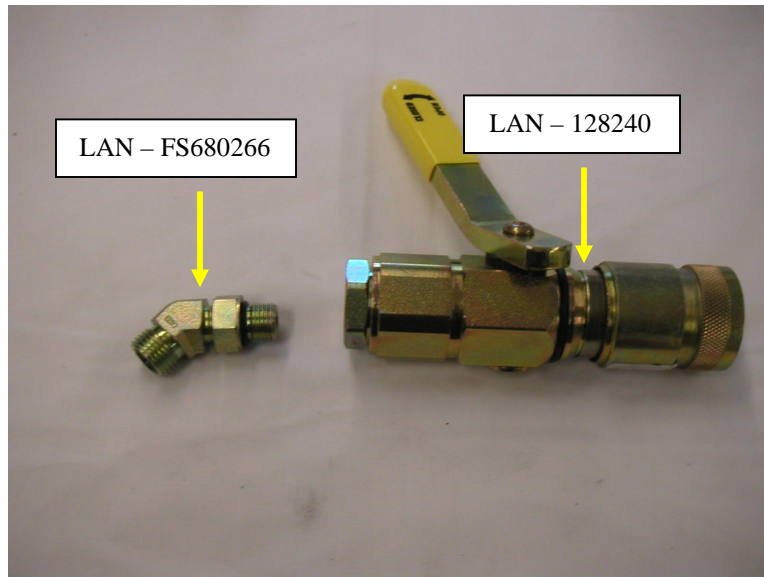

Figure 24
13. Insert fitting (**LAN – FS680266) into small Quick Coupler (LAN – 128240). (See **Figure 24**)